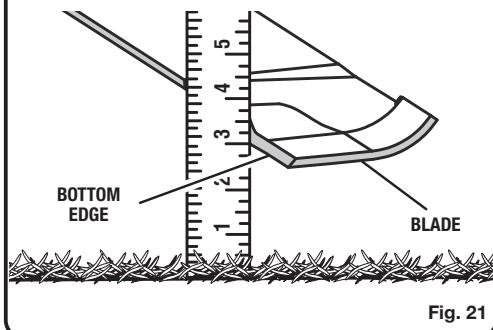

Fig. 21
See Figures 21 - 24.
- Position the blades so that the ends point toward the sides of the mower. See figure 21.